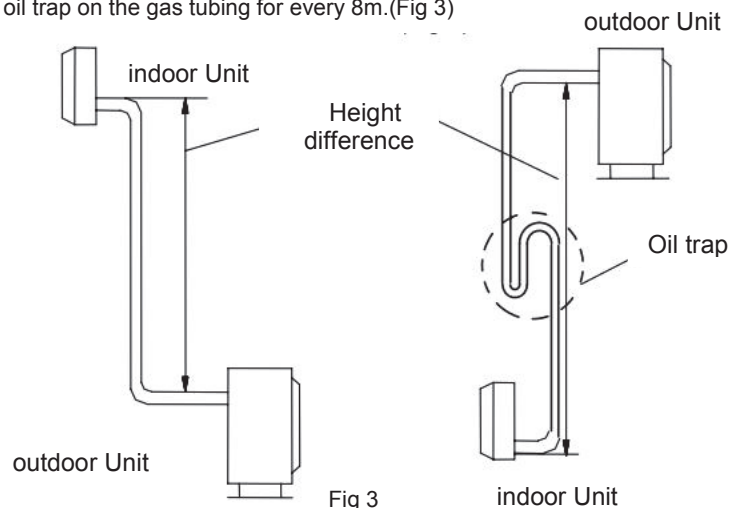

Fig 3
- If the installation position of the outdoor unit is higher than indoor unit and the tubing is longer than 10m, add an oil trap on the gas tubing for every 8m. (Fig 3)